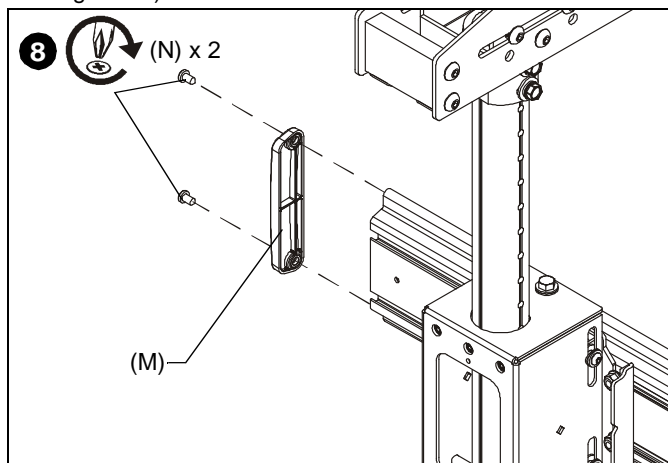

Figure 12
6. Repeat for remaining mounting rail and array heads (U).
7. Tighten bolts which were loosely fastened in array offset (L).
8. Add end cap (M) to end of mounting rail, and fasten in place using two 1/4-20 x 1/2" Phillips pan head screws (N). (See Figure 12)